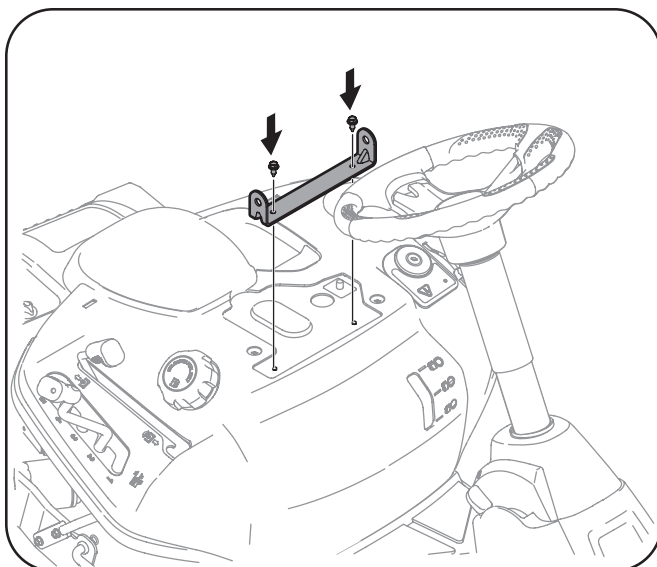

Figure 3-7
3. Align the seat bracket in place over the holes from where the self-tapping bolts were removed, as shown in Figure 3-7.
4. Using a 1/4-inch drive ratchet with a 3/8" socket, secure the seat bracket with the self-tapping bolts removed in step 2. See Figure 3-7.